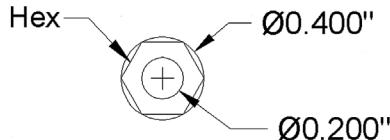

FIGURE 8.24 Bolt layout.
**Step 3.** To begin the drawing itself, we need to start with the hex bolts. Go ahead and draw one of them according to the information in Fig. 8.24. Be very careful, all sizes are diameters not radii; you must tell AutoCAD this by pressing **d** for Diameter while making a circle. This has tripped up many students in the past. Also do not forget to make layer M-Part current. If the bolt is anything but green in color, you missed this step. The dimensions are only for your reference for now; there is no need to draw them.